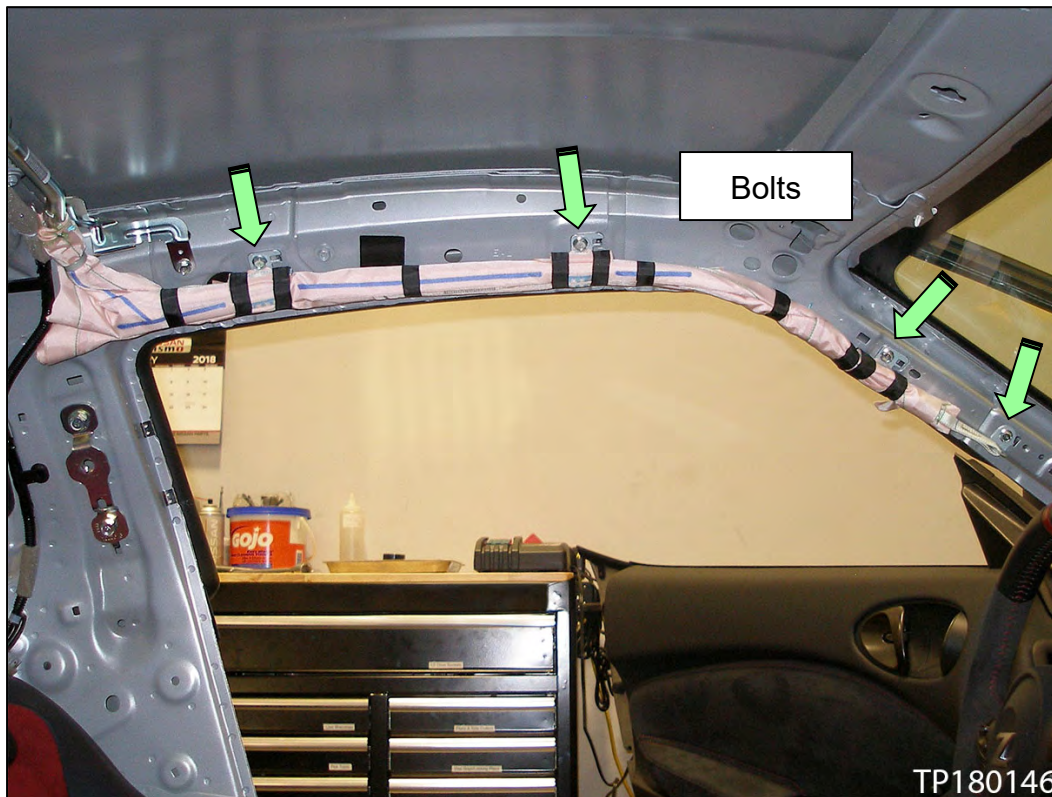

Figure 43
34. Unbolt the four (4) bolts (see Figure 43).